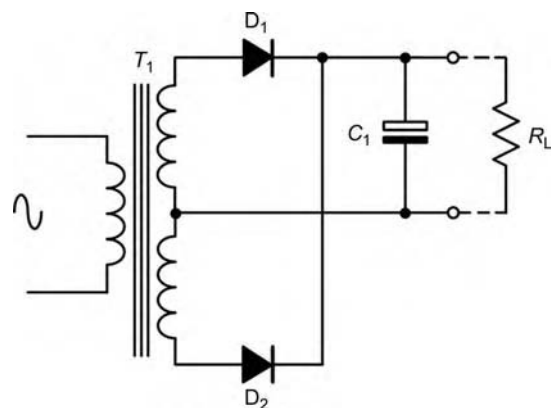

Figure 6.142
32. The output of the circuit shown in Figure 6.142 will consist of a: [B2]